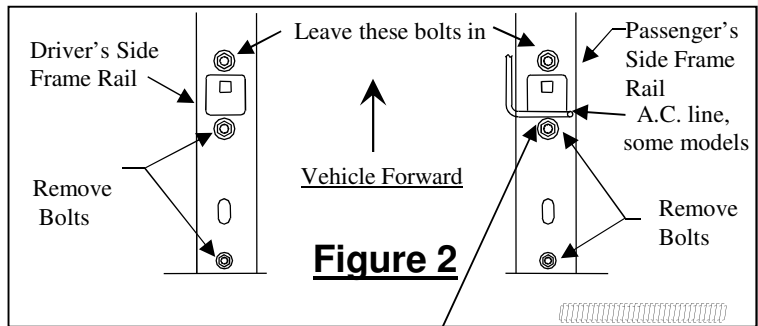

Figure 2
2. Snap plastic loom in place over Air Conditioning line on Passenger's side near bolt if present. See Figure 2 above.
3. Remove existing bolts from frame rails as shown in Figure 2, (2) on driver's side, (2) on passenger's side and retain for hitch installation.